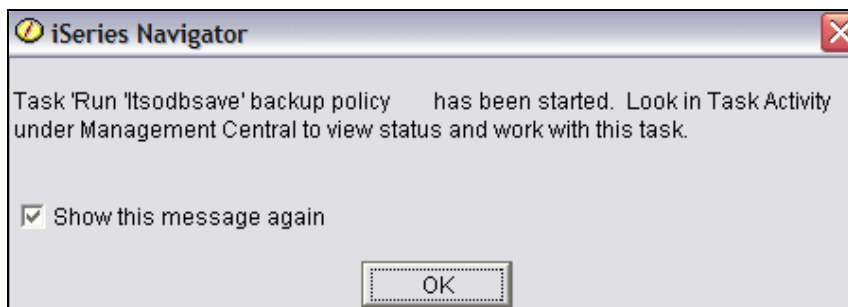

Figure 7-58 BRMS running the backup, backup policy started pop-up
5. Pop-up windows such as the one shown in Figure 7-58 also appear. Click **OK**.